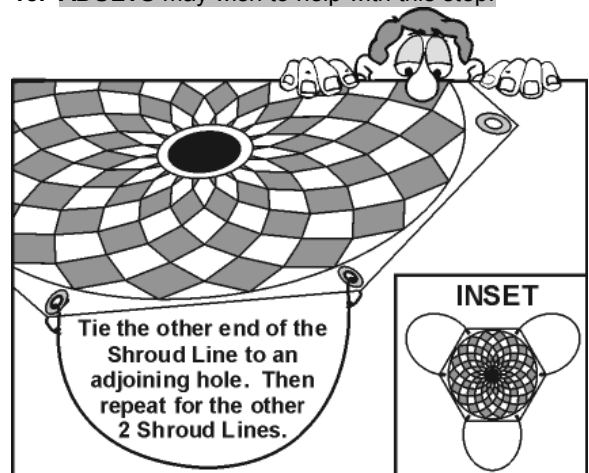

Figure 18
18. Tie the other end of this same Shroud Line to the next hole, so that **ONE** Shroud Line is tied to **TWO** holes. Repeat this step with the other 2 Shroud Lines until your parachute looks like what is shown in the **INSET** of **Figure 18**. **ADULTS** may wish to help with this step.